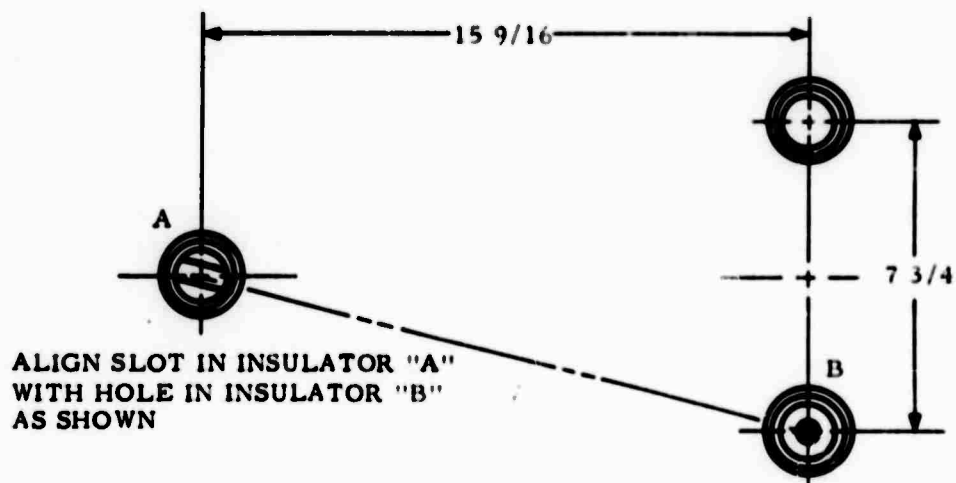

Figure 2-2. Glass Insulator Assembly Setup
- e. Place glass insulator assemblies, part no. 16954-1, -2, and -3 on the Thermal Jacket floor as shown in figure 2-2.